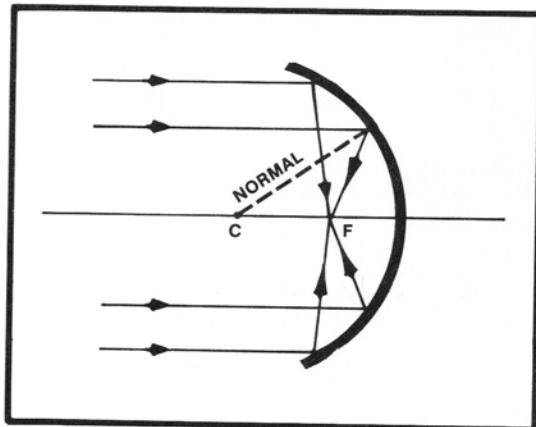

Figure 60
If the mirror has a curved surface, though, the principle of image formation becomes quite different. The mirror lens uses the type of mirror shown in Fig. 60 to form a real—rather than virtual—image.
In Fig. 60, parallel light rays from an infinity source strike the concave surface of the mirror. The dashed line in Fig. 60 represents the normal—from the center of curvature (C) to the mirror surface. By following the law of reflection, you can locate the reflected rays. The reflected rays converge at point F, the focal point of the mirror.